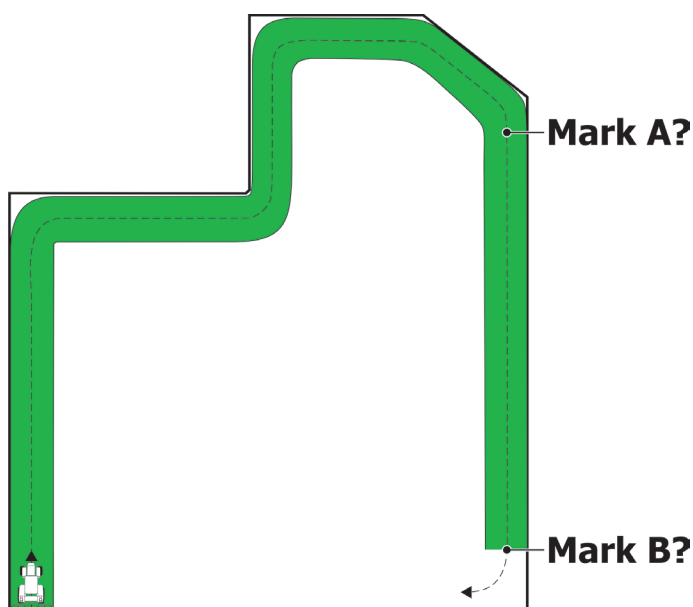

Fig. 102
- Set at the beginning of field to spray (Fig. 102).